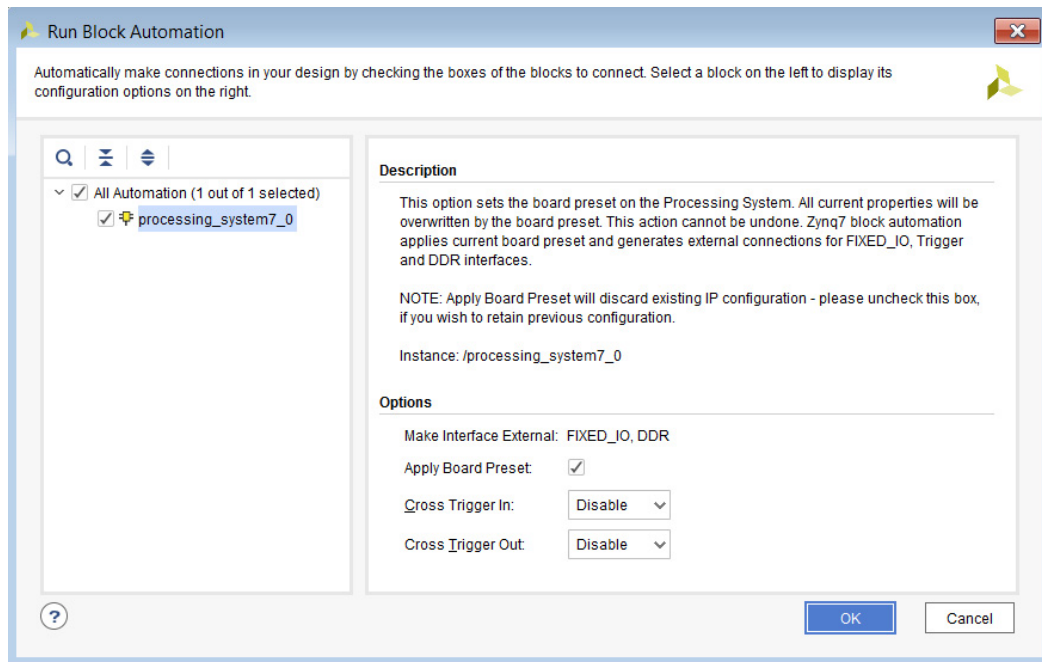

Figure 6-17: Run Block Automation on the ZYNQ7 Processor
2. The Run Block Automation states that the `FIXED_IO` and the DDR interfaces will be connected to external ports, as shown in Figure 6-17.